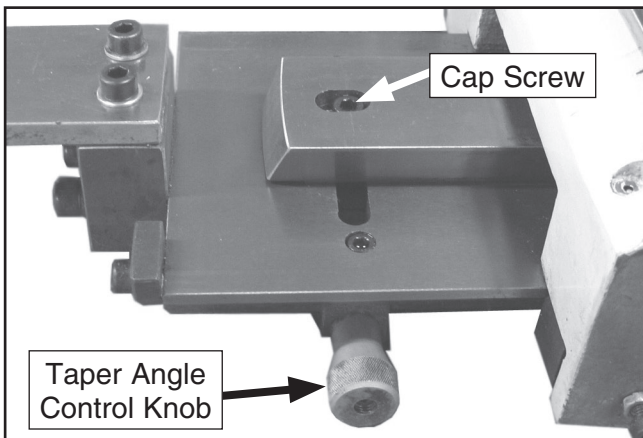
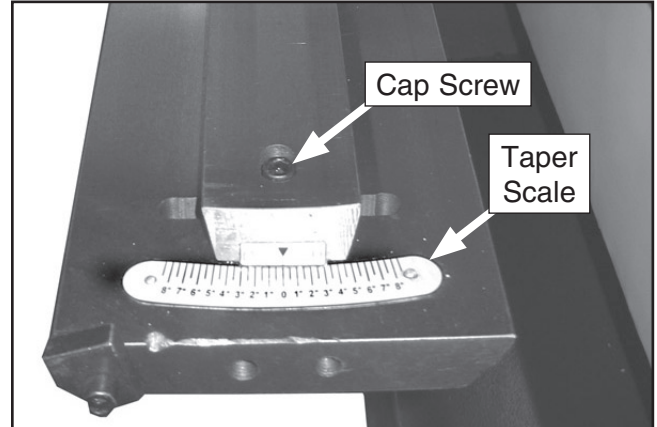

Figure 22. Taper angle control knob.
Figure 23. Taper scale.
4. Using a 6mm hex wrench, loosen both dovetail lock cap screws (**Figures 22 & 23**).
5. Turn the taper angle control knob (**Figure 22**) until you reach the taper angle that you need as indicated by the taper scale (**Figure 23**).